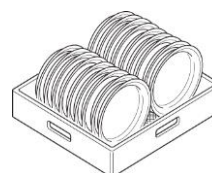

Fig.17
- 1- Load plates in frontal position. (Fig.17)